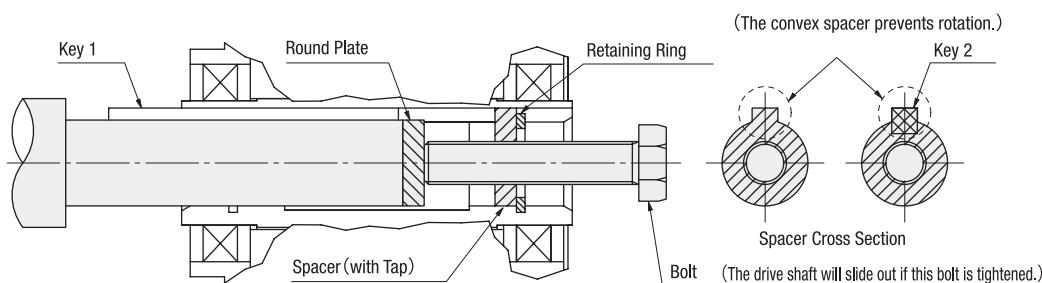

Figure 5
- The positioning spacer is used to position the reducer. It is not required if you know the length of the drive shaft in advance. In addition, attaching the positioning spacer allows for smooth removal from the hollow bore. (Refer to Fig. 5, p. T20 for more on removal from the hollow bore.)